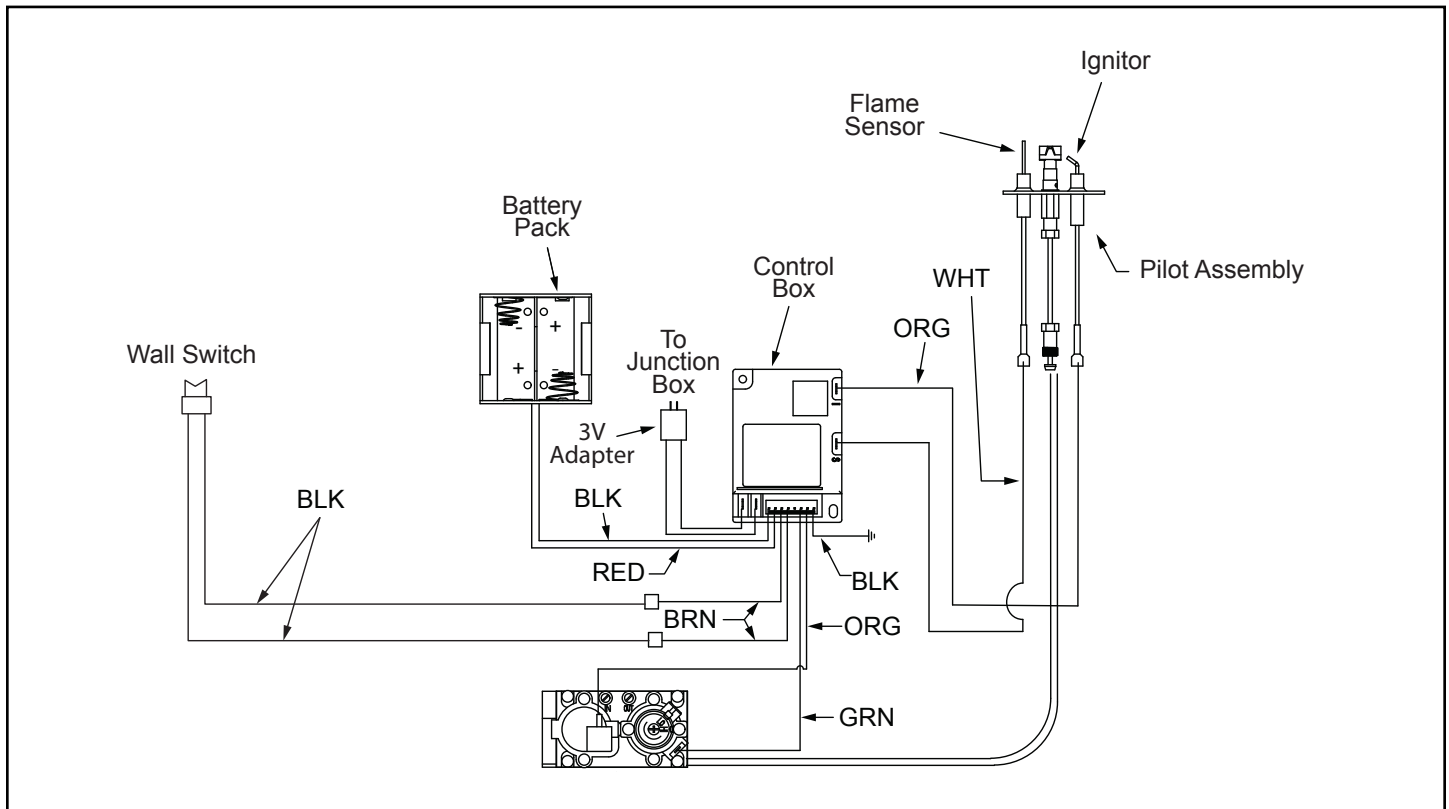

Figure 5.1 - Wiring Diagram
- Refer to Figure 5.1, Intellifire Pilot Ignition (IPI) Wiring Diagram.
- Refer to Figure 5.1, IPI Wiring Diagram.
- Plug the 3-Volt transformer plug into the appliance junction box to supply power to the unit OR install (2) D cell batteries (not included) into the battery pack before use.